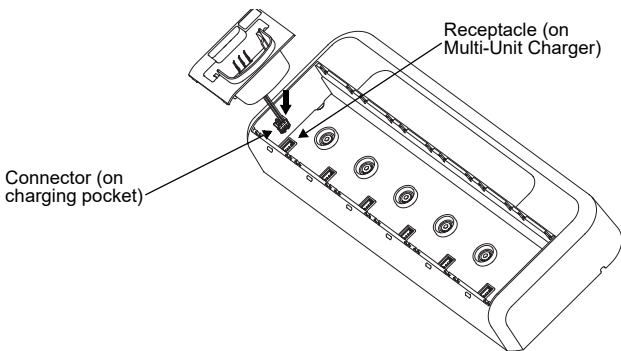

Figure 3
3. Remove the Pocket Harness by pulling straight up on the connector (refer to Figure 3).
1. Connect Pocket Harness by plugging in the connector to the receptacle on Multi-Unit Charger (refer to Figure 3).